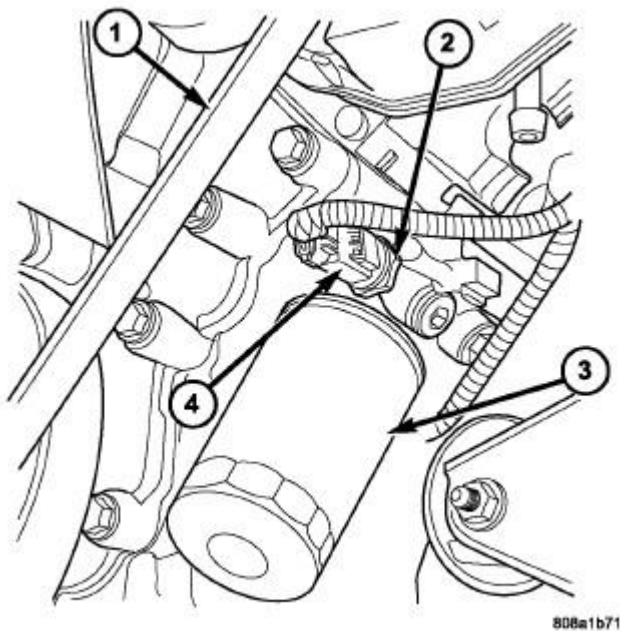

Fig. 167: Belt, Oil Pressure Sensor, Oil Filter & Connector
4. Disconnect oil pressure sender wire (4).
5. Remove the pressure sender (2). Refer to **Fig. 167**.